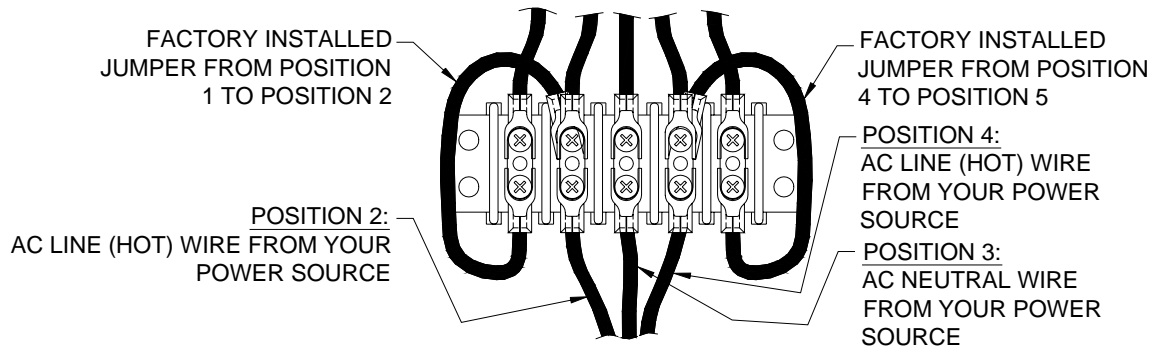

Figure 8 240 VAC Connections
4. If you are going to connect the scoreboard to a 240 VAC supply, connect one AC line wire to position 2, AC neutral wire to position 3, and the other AC line wire to position 4 of MAIN POWER terminal block on the junction chassis according to figure 8.